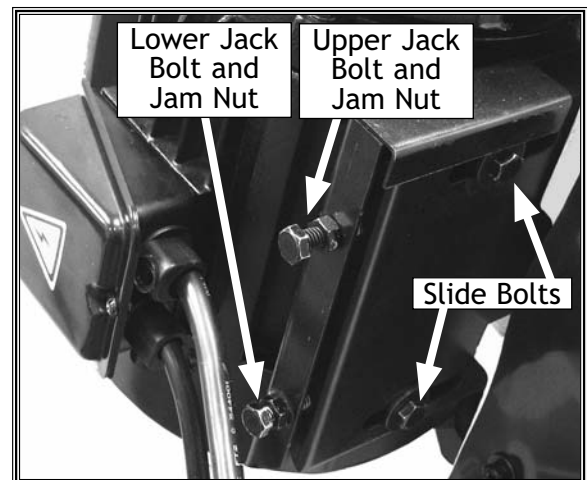

Figure 25. Belt adjustment mechanism.
3. Use a 12mm wrench and loosen the two slide bolts and both jack-bolt and jam nuts shown in **Figure 25**.